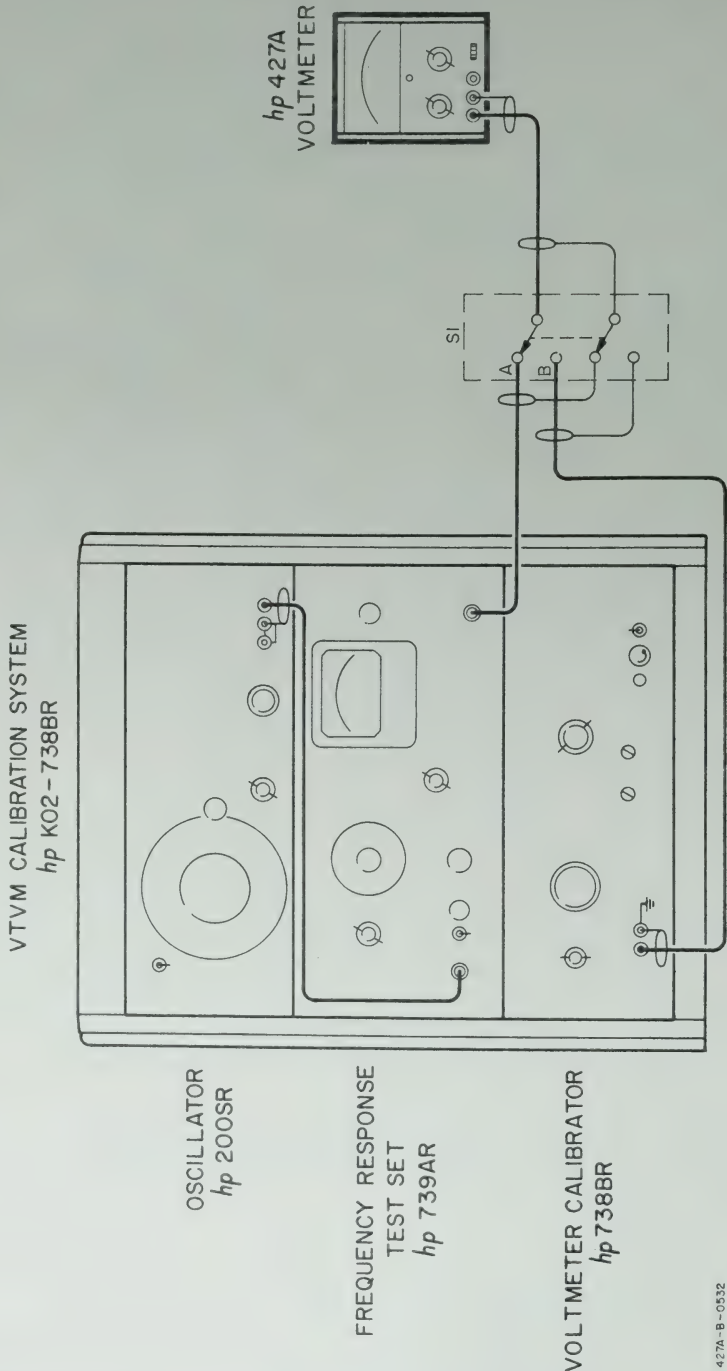

Figure 5-1. AC Accuracy and Frequency Response Check
5-10. Connect the test oscillator, the frequency response test set, and the voltmeter calibrator as shown in Figure 5-1.
- b. Set S1 in Figure 5-1 to position B.
- a. Set S1 in Figure 5-1 to position A. Set the Model 427A RANGE to 0.01.